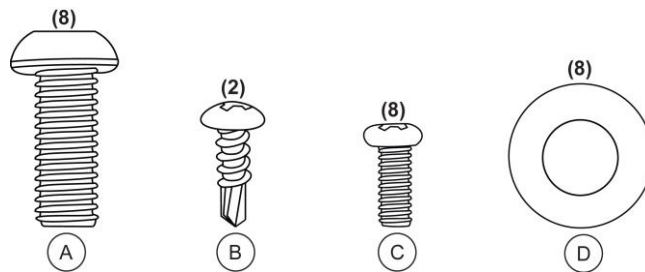

Figure 1
- (1) Plastic bag containing:
- (2) Covers for Display Support (Front & Back)
- Hardware for assembly (see Figure 1)
6. Fasten the handrail to the platform using the (8) M8 1.25 x ¾ screws (A), (8) M8 washers (D) and the included 5mm Allen wrench (see Figure 1).
14. Align the four mounting holes on the back of the display assembly with the four mounting holes in the display support. Fasten the display assembly onto the metal display support. Use the (4) Phillips pan head #5 x 3/8" screws (C) (see Figure 1).
15. Place the pivot bracket screw covers over the pivot screws. Fasten the covers to the back of the display assembly using the (4) Phillips pan head #5 x 3/8" screws (C) (see Figure 1).
16. Attach the adapter holder to the left side of the handrail using the (2) #8 x 1/2" sheet metal screws (B) (see Figure 1).
- Hardware for assembly (see Figure 1 on Page 10)
7. Align the four mounting holes on the back of the display assembly with the four mounting holes in the display support, and fasten the display assembly onto the metal display support using the (4) Phillips pan head #5 x 3/8" screws (C) (see Figures 1 and 9).
8. Place the pivot bracket screw covers over the pivot screws, and fasten the covers to the back of the display assembly using the (4) Phillips pan head #5 x 3/8" screws (C) (See Figures 1 and 9).
9. Attach the adapter holder to the left side of the handrail using the (2) #8 x ½" sheet metal screws (B) (see Figure 1).